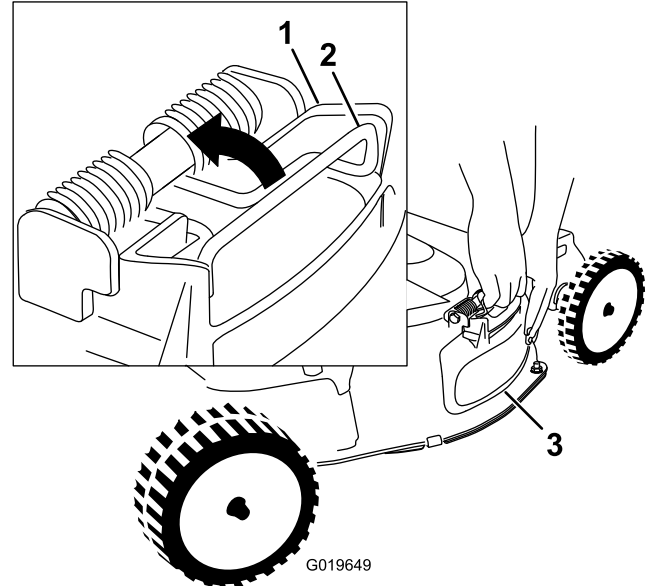

Figure 23
4. Remove the side-discharge deflector by pulling up on the spring that holds the deflector in place and removing the deflector (Figure 23).